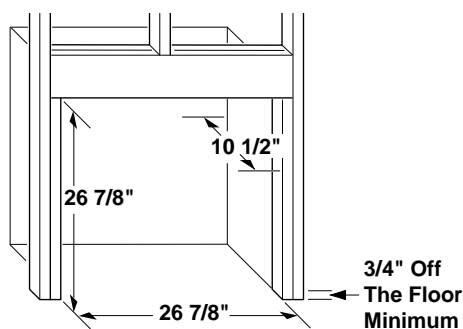
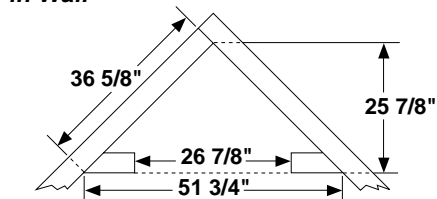

Figure 8 - Rough Opening for Installing in Wall
Figure 9 - Rough Opening for Installing in Corner
1. Frame in rough opening. Use dimensions shown in Figure 8 for the rough opening. If installing in a corner, use dimensions shown in Figure 9 for the rough opening. The height is 26 7/8" which is the same as the wall opening above.